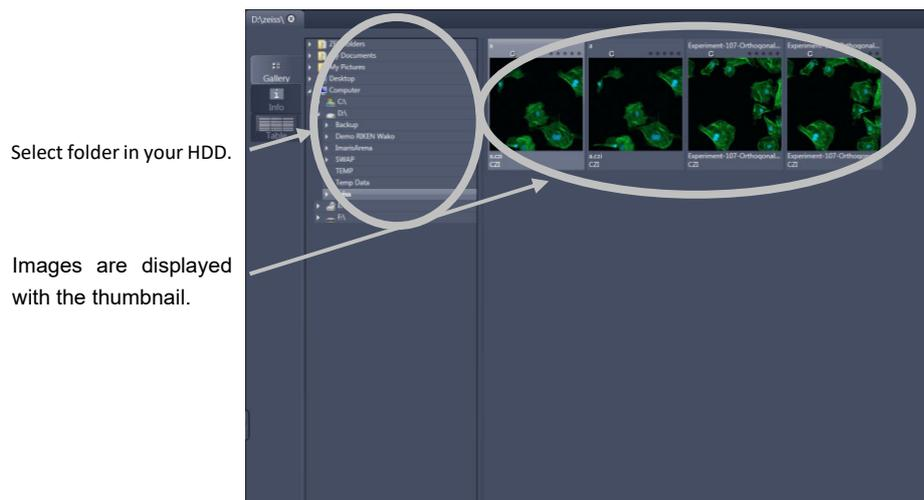

Fig.40 New File Browser
- ② The ZEN File Browser can be used like the WINDOWS program file browser. Images can be opened by double-click and image acquisition parameters are displayed with the thumbnails (Fig. 40).